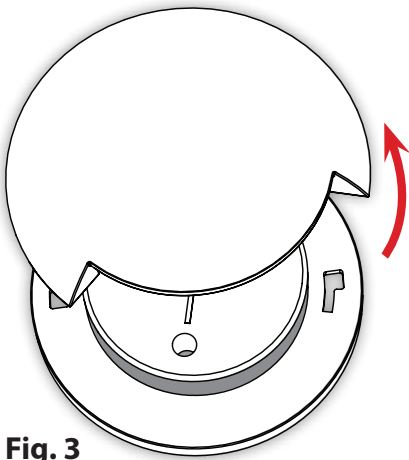

Fig. 3
5. Remove Sconce Light cover from Sconce Light back plate by rotating counter clockwise (**Fig. 3**)